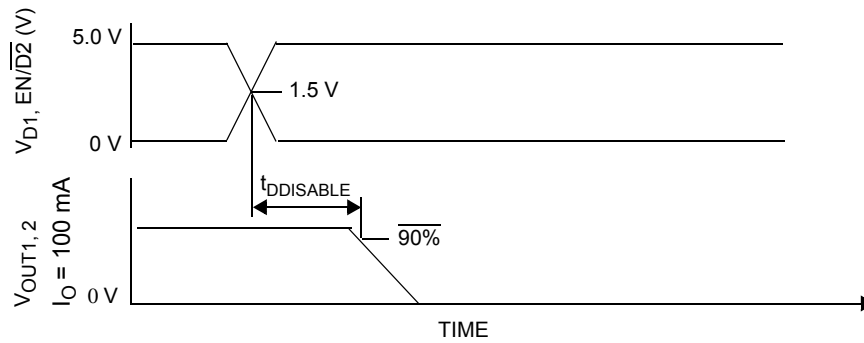

Figure 5. Disable delay time
26. * Disable Delay Time measurement is defined in Figure 5, page 10.